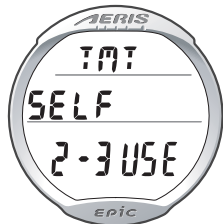

Fig. 107 - TMT 2-3 USE
- Pressing and holding the M button for 2 seconds while viewing a NORM DIVE MAIN screen will access the TMT 2-3 USE screen displaying the Set Point SELF (Fig. 107). If BUD is displayed, indicating that the EPIC is set for Checking Buddy Pressure, a Gas Switch cannot be made.